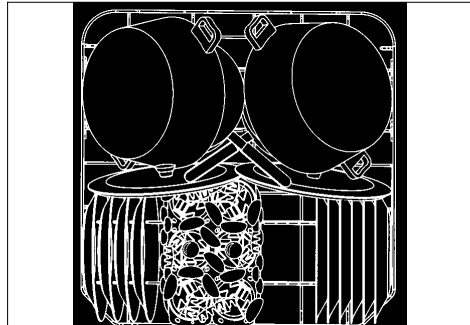

fig. 9
**Loading the lower basket** (see fig. 9)